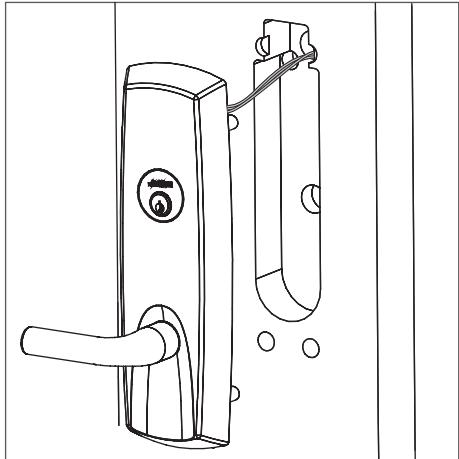

Fig. 5a
- a. Feed trim harness through upper hole in cutout (Fig. 5a).